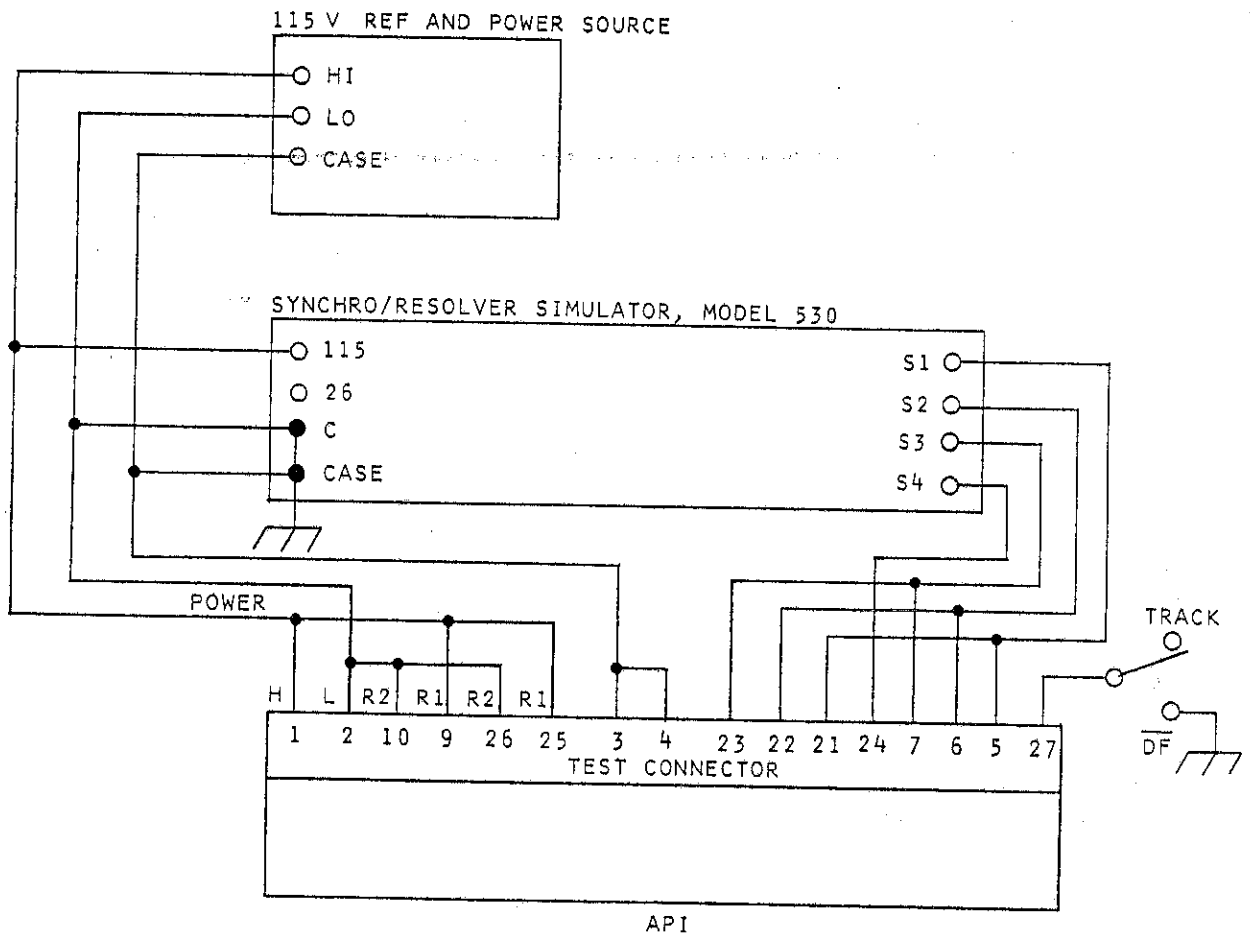

Figure 6-1. Test Setup
- a. Wire up the test connector and connect the equipment as shown in figure 6-1.
- c. Wire up the test connector and connect the equipment as shown in figure 6-1.